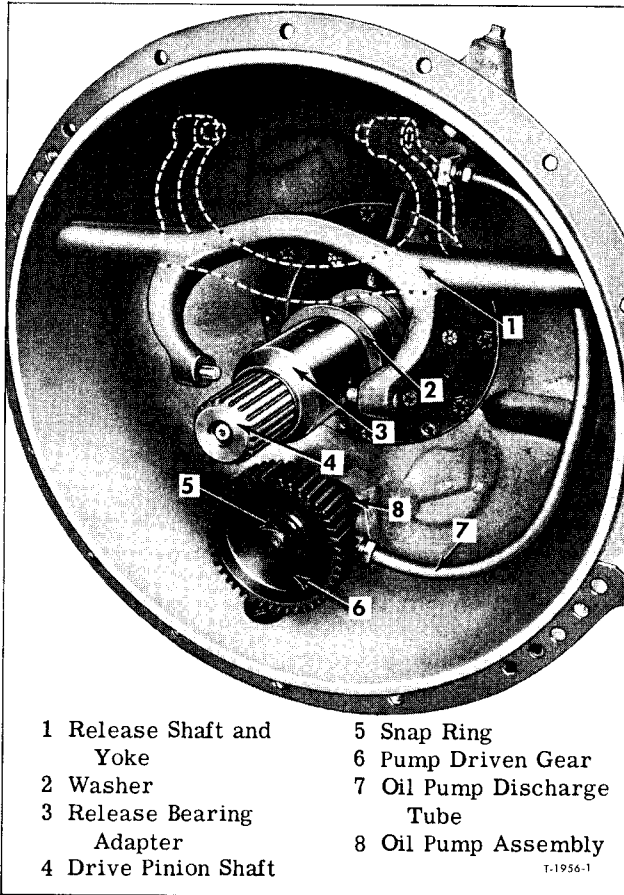
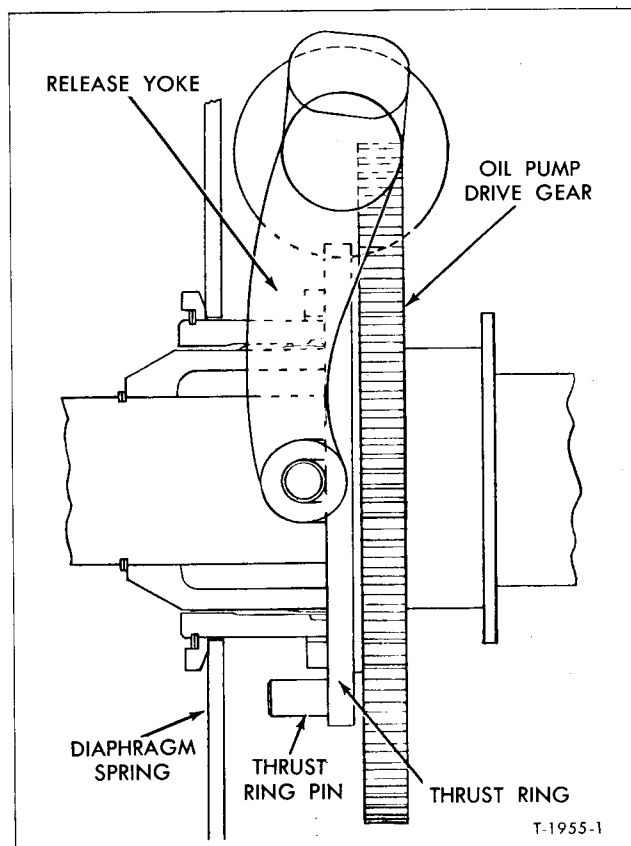

Figure 9—Clutch Release Cross Shaft, Oil Pump Driven Gear, and Discharge Tube Installation
Figure 14—Operating Position of Clutch Release Shaft Yoke and Thrust Ring Pin
Key numbers in text refer to figure 9.
PUMP INSTALLATION (Fig. 9)
2. Turn clutch release thrust ring so that thrust ring pin is down as shown in figure 14. Clutch release cross shaft yoke must be up as shown in dotted lines in figure 9.
NOTE: During above procedure turn clutch release shaft so that fork is between diaphragm spring and clutch release thrust ring as shown in figure 14.